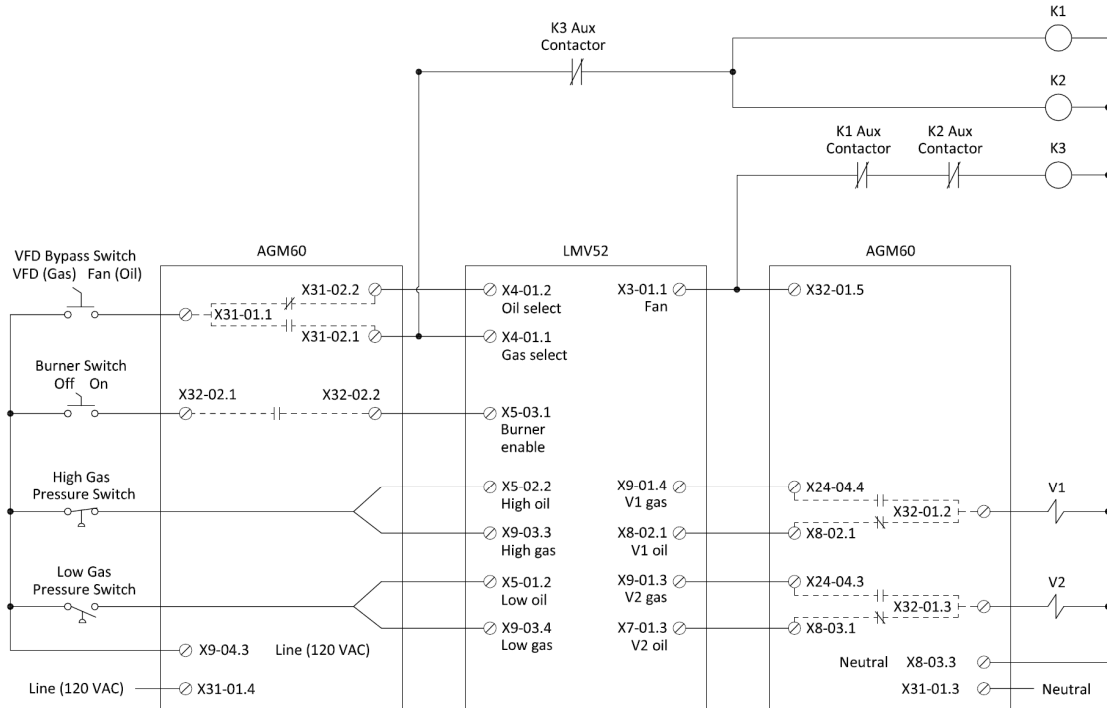

Figure 14: LMV52 and AGM60 Wiring for Single Fuel VFD Bypass
- Wire the LMV52, AGM60, and motor contactor coils as shown in Figure 14.